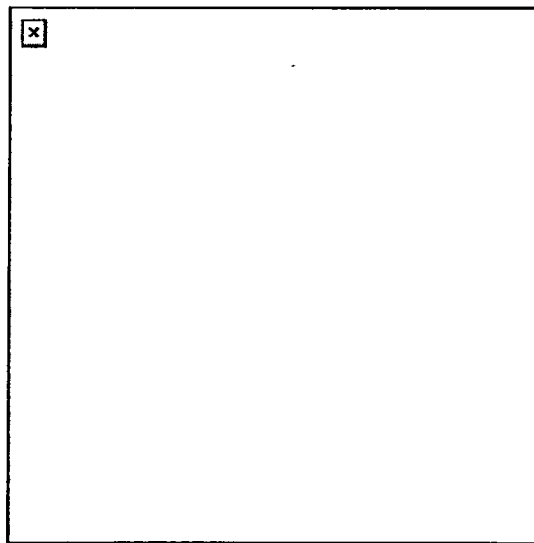

Figure 3. Group moving to the next position.
- (1) The group must first position themselves so they are prepared to move to their next position.
- (2) The group, on a planned signal, moves across the open area at the same time to the next position. When moving, they should stay about 5 meters apart (Figure 3).